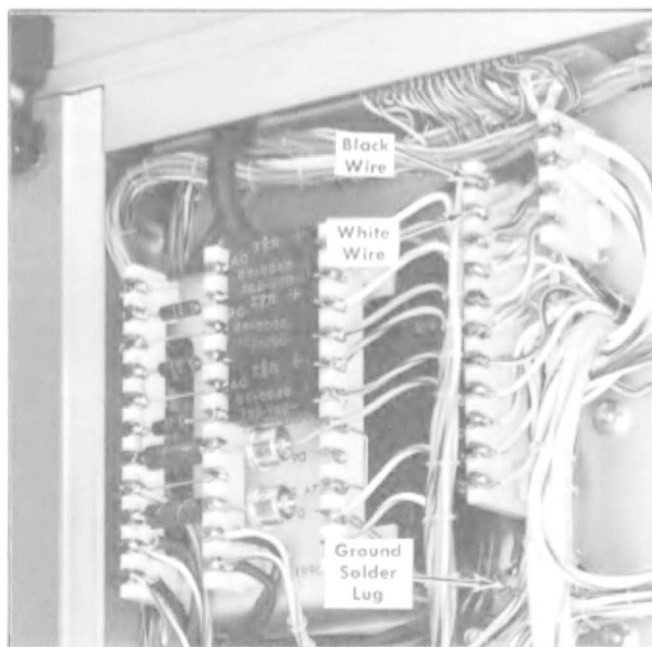

Fig. 2-2. Bottom view of the Type 568 showing the location of the ground lug and input connections required for changing the power cord.
- Unsolder the ground wire (green) from the solder lug located near the front of the power transformer (see Fig. 2-2).
- Install the power cord through the hole in the rear panel and solder the leads to the terminals from which the previous power cord was removed (see Fig. 2-2).